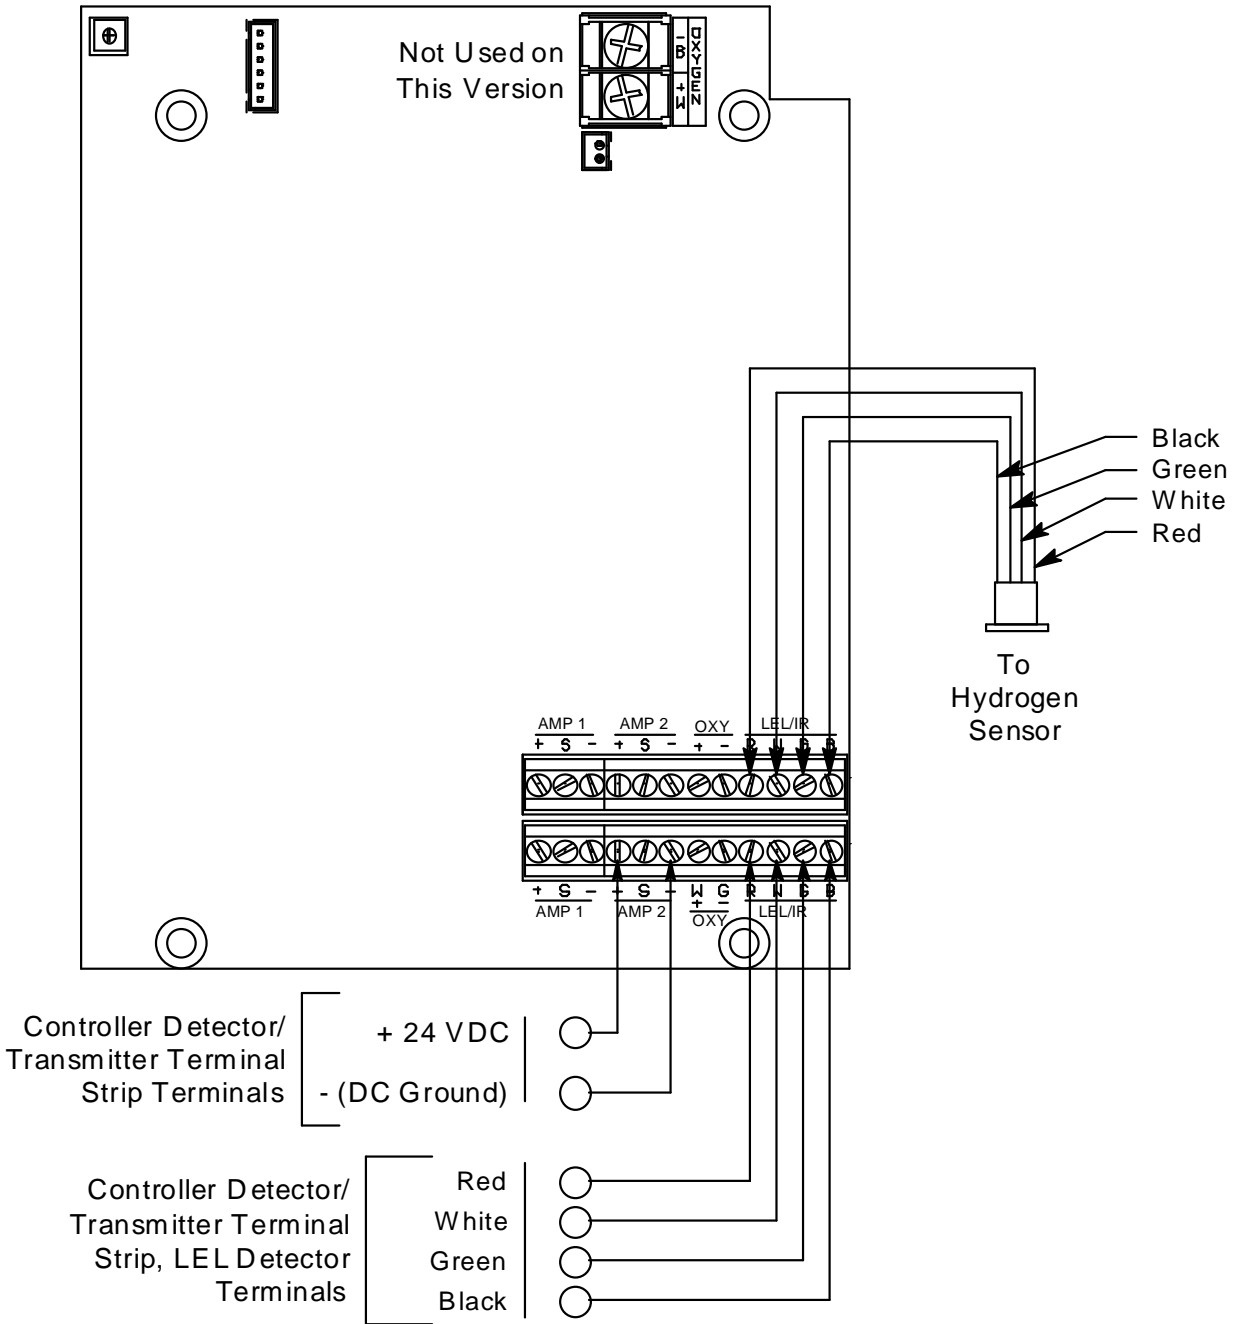

Figure 4: Wiring the Sample-Draw Detector to a Controller
5. Connect the cable to the sample-draw detector’s interconnect terminal strip as shown in Figure 4.
- Connect the wires to the applicable detector/transmitter terminal strip at the controller as shown in Figure 4. Refer to the controller operator's manual and the controller detector head specification sheet for the 35-3001-01H for detector/terminal strip connections specific to the controller.